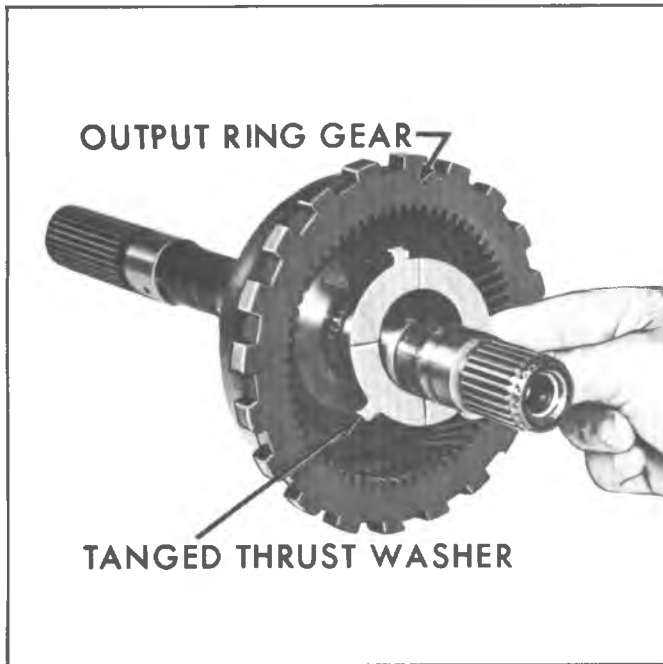

Fig. 42N--Removing Output Ring Gear Tanged Thrust Washer
18. Remove reaction carrier to output ring gear tanged (front) thrust washer (fig. 42N).